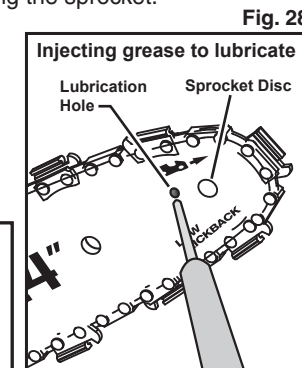

Fig. 28
2. Using a grease gun, insert the tip of the gun into the lubrication hole and inject grease until it appears at the outside edge of the sprocket tip. (See Fig. 28)